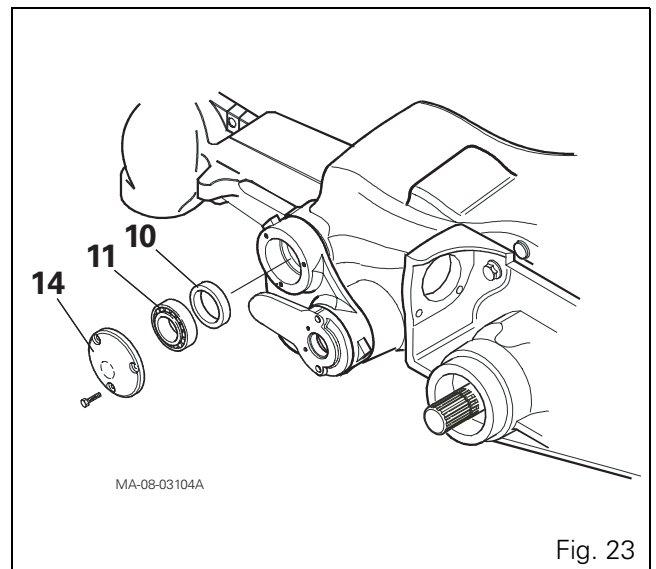

Fig. 23
23. Fit seal (10) using tool ref. CA715351 (see § C) (Fig. 23).
24. Fit cover (14) and its screws (Fig. 23).